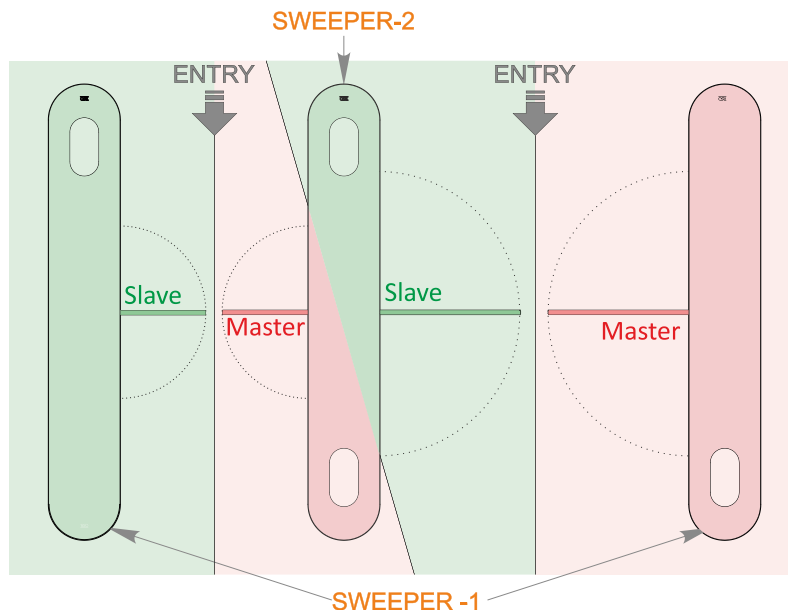

Fig. 1 – Definition of the turnstile component description
2) For arrangement of two or more lanes the turnstile "Sweeper-BM-1" is a set of two one-leaf cabinets (reference designation T3.KCD.XD) (Fig.1 b) and one or more auxiliary cabinets "Sweeper-BM-2" (Master/Slave) with two swing leaves (reference designation T3.KCD.XD.X).